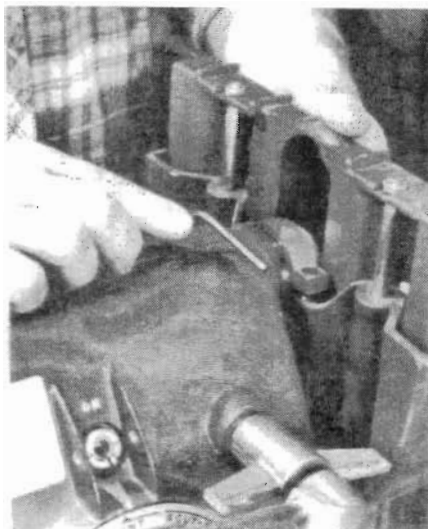

Figure 3. Place the lower saw guard on the quill, then tighten the Allen screws on the saw guard collar.
2. Mount the lower saw guard on the quill so that the collar on the guard butts up against the stop collar on the quill. With a $5/32$ " Allen wrench, tighten the two screws (27) on the collar. (See Figure 3.) Tighten each screw equally.
4. Mount the tie bar shield (20) over the two thumbscrews on the tie bar. Tighten the thumbscrews.
6. Install the upper saw guard by sliding the upper guard from left to right into the slots in the mounting block (17).